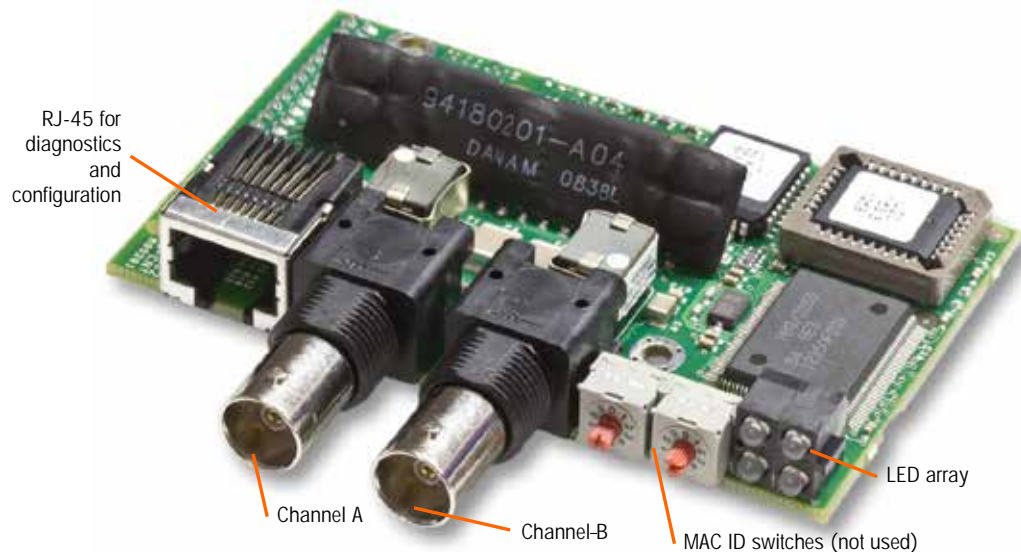

Figure 2-1: ControlNet PLC Module and its Components
Figure 2-1 shows the ControlNet interface module and its components.
- Do **not** plug an Ethernet cable into the RJ-45 connector shown at left in Figure 2-1. This connection is not used.